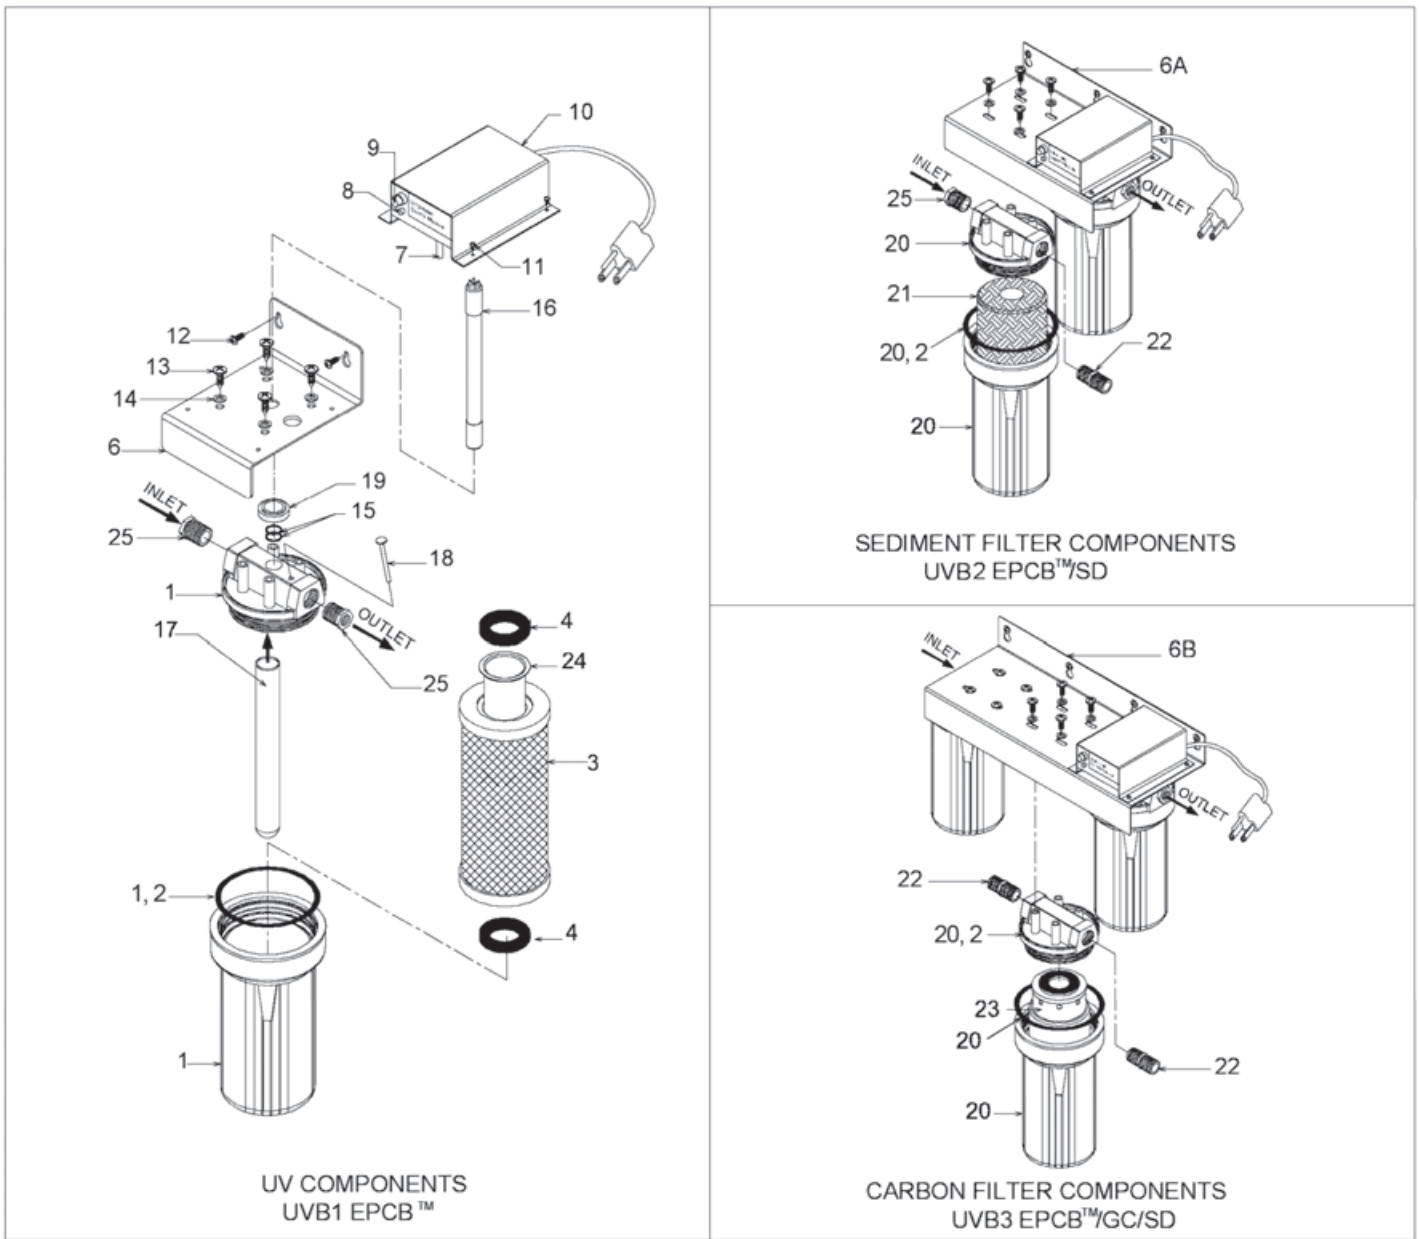

Figure 1 Exploded Schematic, PURA UVB Series
NOTE: All Items refer to Figure 1.
2. Install EPCB™ Sleeve (Item 24) into EPCB™ Carbon Filter (Item 3) as shown in Figure 1.
3. Insert filter/sleeve assembly into sump as shown in Figure 1 with both Filter Gaskets (Item 4) in place.
5. **For UVB2 & UVB3 Models only:** Remove Sump (Item 1) from Filter Head (Item 20). Install Filters (Items 21 and 23) as shown in Figure 1. Install sump onto filter head.
CAUTION: Verify that inlet and outlet ports are connected to appropriate inlet/outlet pipes (see Figure 1).
4. **For UV20-2 & UV20-3 Models only:** Remove Sump (Item 1) from Filter Head (Item 20). Install Filters (Items 21 and 23) as shown in Figure 1. Install sump onto filter head.